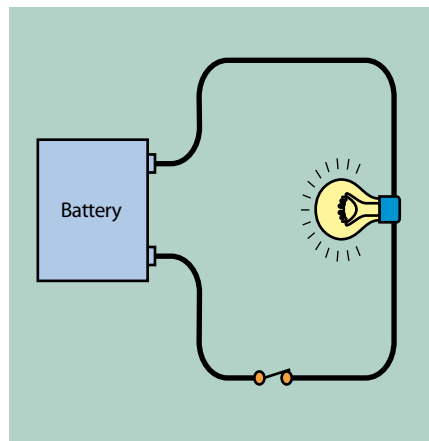
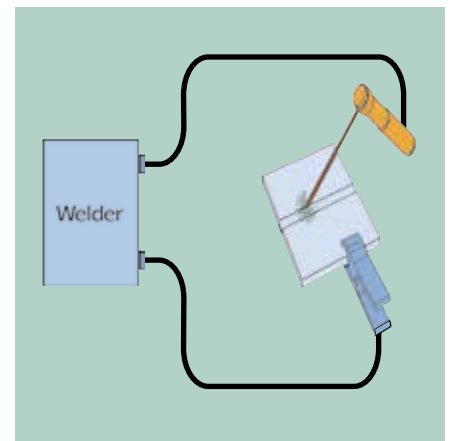
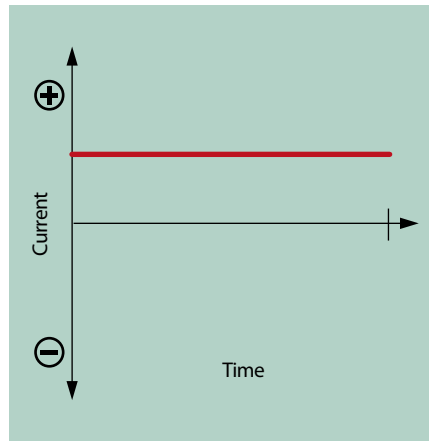

FIGURE 1 Closed electrical circuit
FIGURE 2 Basic welder circuit
FIGURE 3 Direct current (DC)
With any electrical circuit power will only flow when the circuit is connected to the power source in a loop (see Figure 1). This is called a closed circuit — electricity flows from the power source through a switch to
Heat is generated when current flows through an area of high resistance. The tungsten filament in the light globe in Figure 1 has a much higher resistance to current flow than the wires in the circuit, so heat and light are generated.
A welder operates on the same principle as the closed circuit in Figure 1. The switch is closed when the electrode tip touches the work (see Figure 2). The current flows
Current flowing from a battery as shown in Figure 1 is called direct current (DC) because it always flows in the same direction (Figure 3).